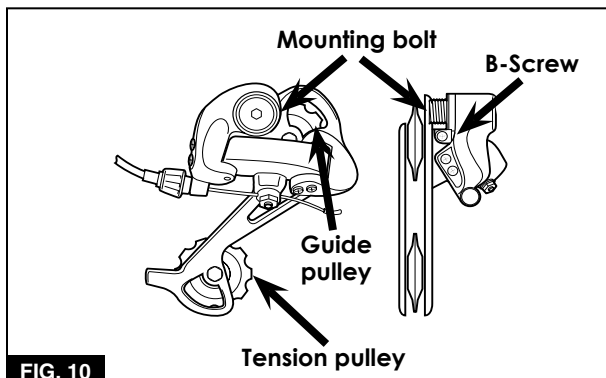

FIG. 10
Lubricate to the following components on the derailleur. See **Figure 10**.
d. Tighten the B-screw (**Figure 10**) one turn, and repeat the bounce check.